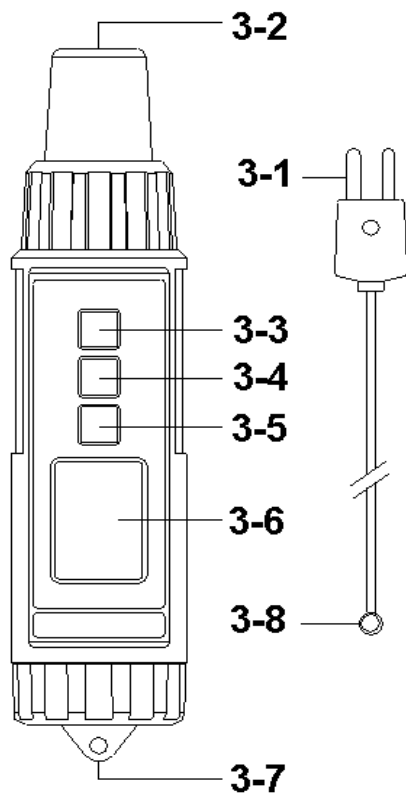
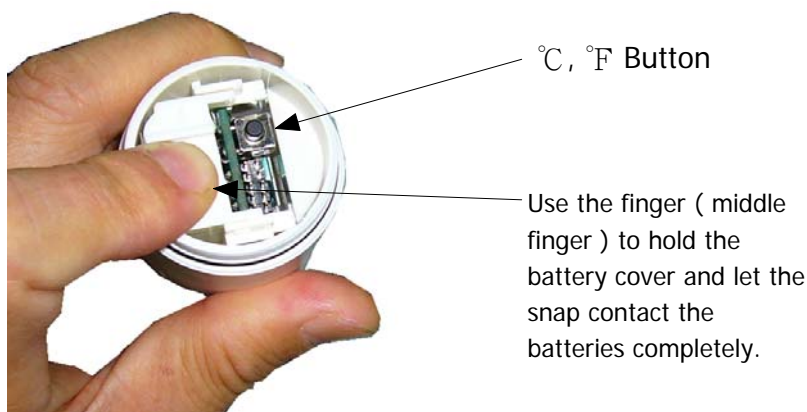

Fig. 1
Fig. 2
- 1) Turn on the meter by pressing the " Power Button " (3-3, Fig. 1) momentarily.
** Press the " Power Button " (3-3, Fig. 1) momentarily again will turn off the meter.*
- 2) Insert the " Temp. probe plug " (3-1, Fig. 1) into the " Input socket " (3-2, Fig. 1).
The " Display " (3-6, Fig. 1) will show the temperature value that sensing from the probe's head.
- 1) During the measurement, press the " Hold Button " (3-4, Fig. 1) momentarily to hold the measured value. The LCD will show a " HOLD " symbol.
During the measurement, press the " Display Reverse Button " (3-5, Fig. 1) once will reverse the display direction for the user convenience.
- 1) Refer to Fig. 2 , open the " Battery Cover " (3-7, Fig. 1), use the finger (middle finger) to hold the battery cover and let the snap contact the batteries completely.
- 2) Turn on the meter by pressing the " Power Button " (3-3, Fig. 1) momentarily.
Press the " °C, °F Button " (Fig. 2) momentarily will switch the Temp. unit from " °C to °F " or " °F to °C ".
- 3) After the Temp. unit is selected, then release the finger from the battery snap and install the " Battery Cover " (3-7, Fig. 1) again..
- * To change the batteries, open (rotate clockwise direction) the " Battery Cover " (3-7, Fig. 1).
- * Make sure the " Battery cover " (3-7, Fig 1) is secured after changing the batteries.